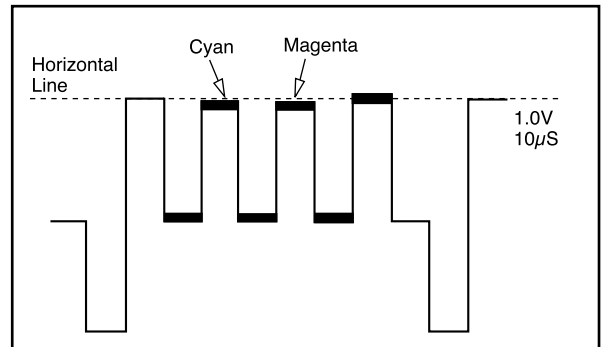

Fig. 3-4
1. Connect the oscilloscope to CNA704 ③ PIN B.
2. Using the volume keys on the jig remote controller, adjust the top excursions of waveform to be linear (Fig. 3-4).